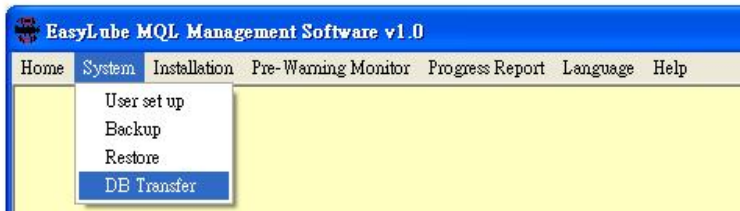

Fig.7
- 2 Go to **System** (Fig.7), click **DB Transfer** button.
- ❶ After inspection patrol, connect your HP iPAQ to the computer. Go to **System**, click **DB transfer** button (Fig.7).
- ❷ Click **Upload**, the program will automatically uploading all the collected data to MQL software.